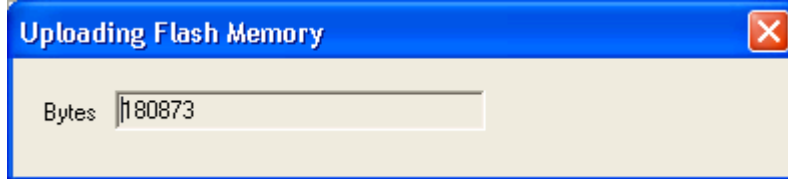

Figure 2
3. **Upload Data.** Click  on the toolbar. A window, as Figure 2, will pop up. It shows the number of bytes uploaded from flash memory. The eeTerminal will update the display window when the uploading process is completed.